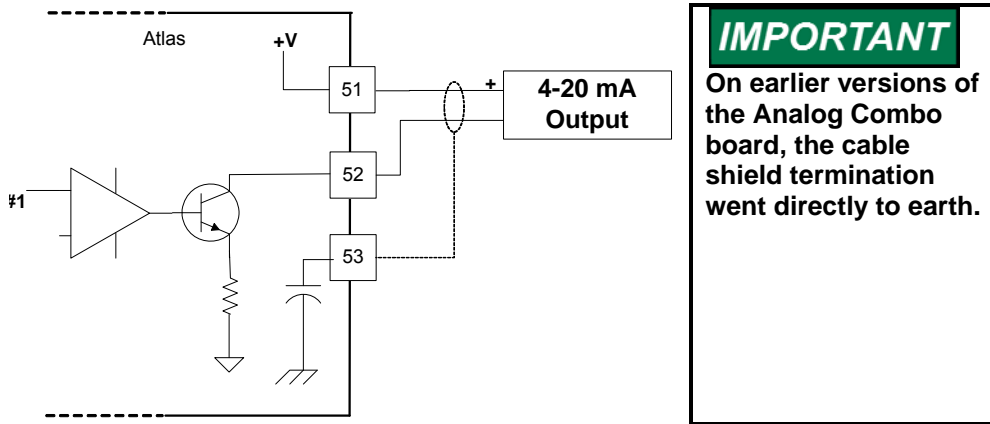

Figure 7-5. Wiring Example—Analog Output Interface
- Refer to Figure 7-5 for analog output wiring.